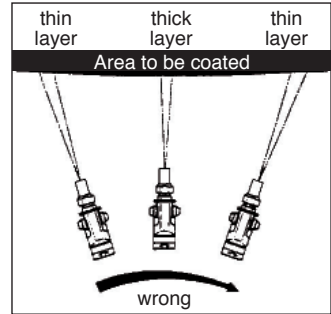

Fig. 14: Do not wave!
- Ensure an even speed and move the spray gun parallel to the area to be coated. Waving the spray gun causes irregular coating (see Fig. 14).